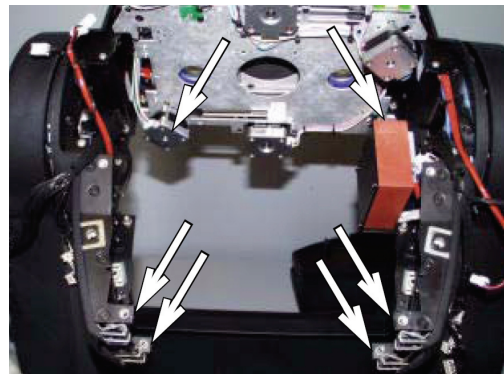

Figure 69
76. See Figure 69. Lower the original zoom/focus module into position in the head, easing it past the 'sticking points' (arrowed) on each side in turn, and secure the module with the four screws you removed in step 43.